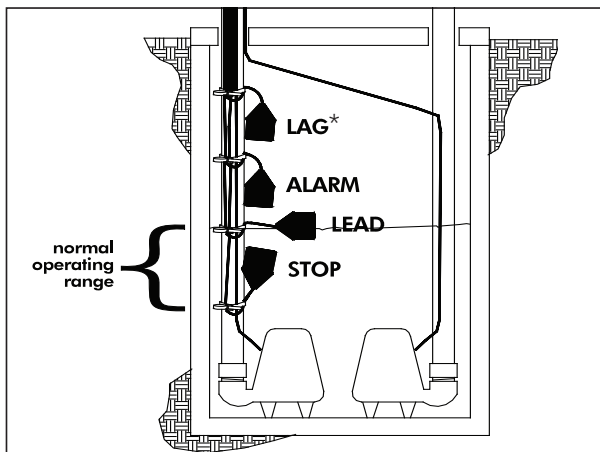

FIGURE 1 - Four float duplex
2. Determine your normal operating level, as illustrated in **Figure 1**.